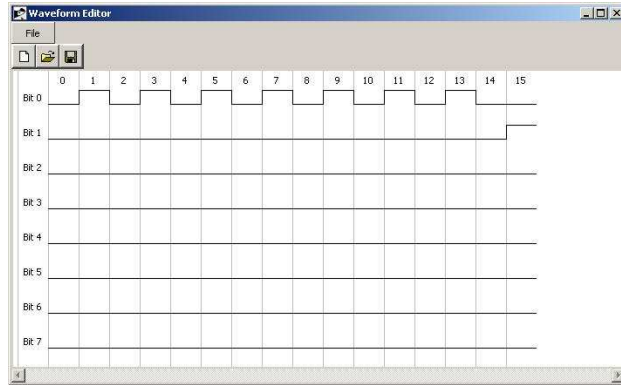

Figure 8: Pattern Editor
8. On the Bit 1 line, create a single logic 1 in the #15 time slot. The pattern editor should appear as in figure 8.